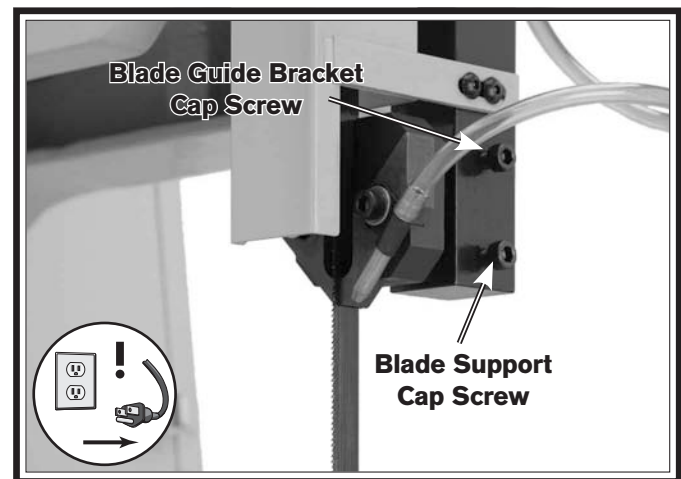

Figure 18. Upper blade guides and bracket.
4. Use a 5mm hex wrench to loosen the cap screws that secure the blade guide bracket and blade support (see **Figures 18–19**).